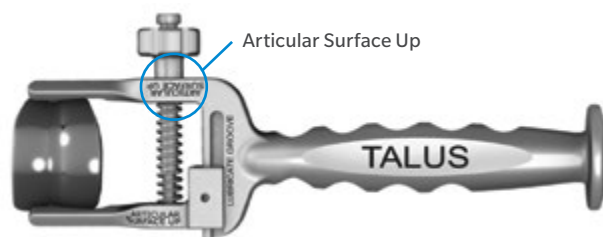

Fig. 84a
- The articular surface of the implant should be oriented in the same direction as the “Articular Surface Up” instructional etch side of the inserter (Fig. 84a & 84b).